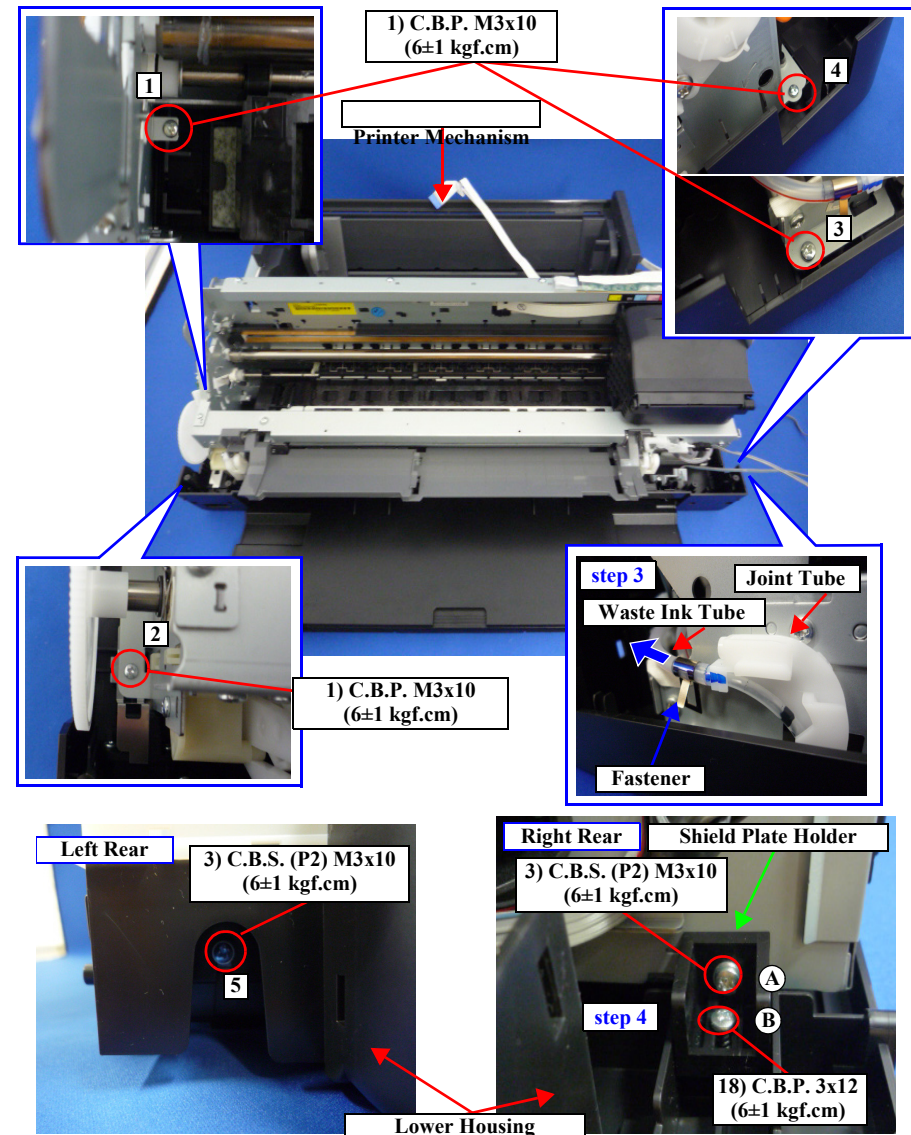

Figure 8-21. Screws that Secure the Printer Mechanism
Install the Printer Mechanism to the Lower Housing as follows. (refer to *Figure 8-21*)
- Place the Printer Mechanism on the Lower Housing and secure the Shield Plate Holder and the Printer Mechanism with the screw (A).
- Secure the Printer Mechanism and Lower Housing with screws (x5). (Tighten the screws in the order shown in *Figure 8-21*)